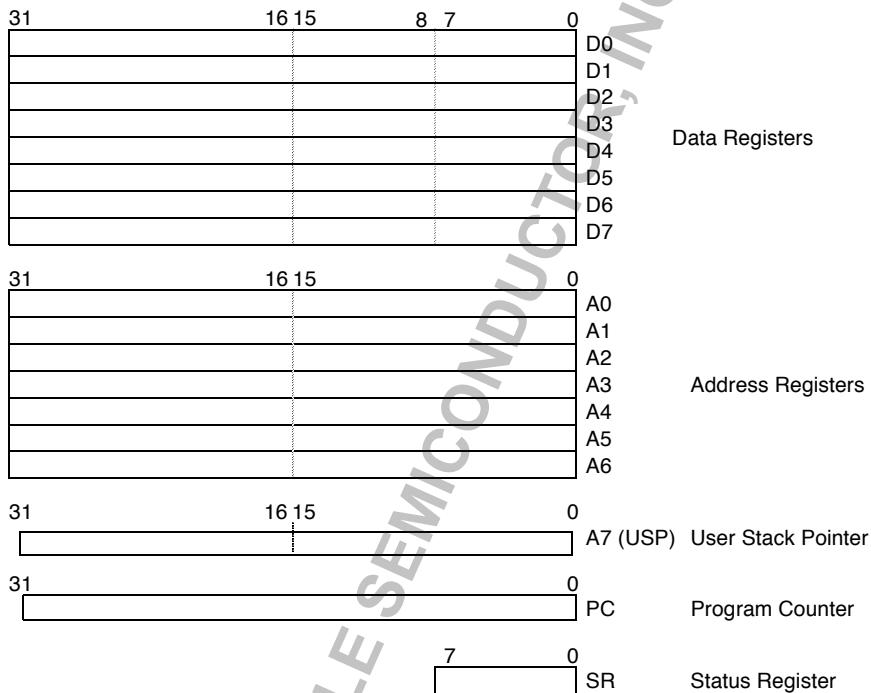

Figure 1-2. User Programming Model
The CPU has 32-bit registers and a 32-bit program counter, which are shown in Figure 1-2. The first eight registers (D7–D0) are data registers that are used for byte (8-bit), word (16-bit), and long-word (32-bit) operations. When being used to manipulate data, the data registers affect the status register (SR). The next seven registers (A6–A0) and the user stack pointer (USP) can function as software stack pointers and base address registers. These registers can be used for word and long-word operations, but they do not affect the status register. The D7–D0 and A6–A0 registers can be used as index registers.